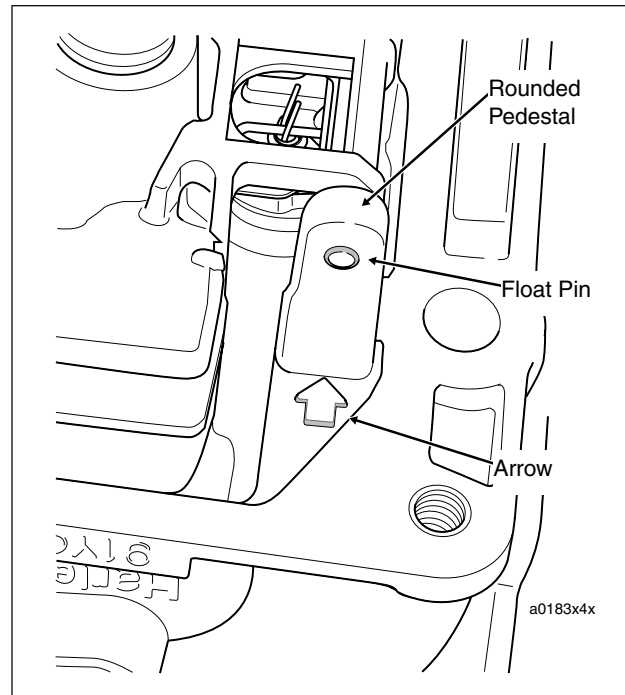

Figure 4-16. Remove Float Pin in Direction of Arrow
3. Remove vacuum piston spring. Carefully raise diaphragm to remove vacuum piston assembly. Remove spring seat and jet needle from vacuum piston bore. See Figure 4-16.
2. Using a small center punch and hammer, carefully tap float pin from holes in pedestals. The rounded pedestal has an interference fit to ensure that the float pin is securely held, so always tap out the pin in the direction of the cast-in arrow (that is, from the interference side). See Figure 4-16.